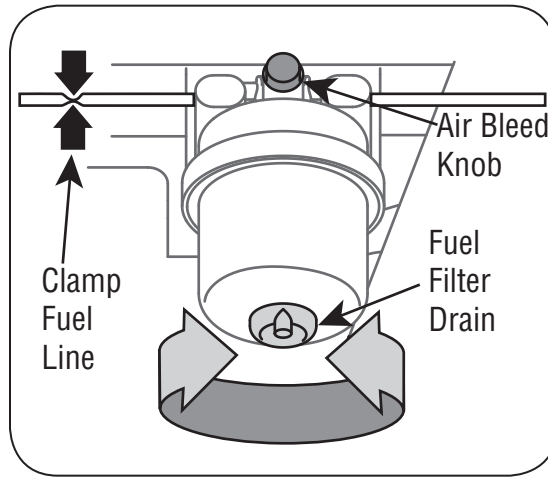

Figure 12
2. Place a suitable container beneath the filter drain valve. See Figure 12.
3. Turn the filter drain counterclockwise to open. Allow the water at the bottom of the filter to drain until only pure diesel fuel drains from the valve. See Figure 12.
5. Slowly turn the air bleed knob counterclockwise until fuel begins to seeps out around the bleed knob. Turn air bleed knob clockwise to close. Refer to Figure 12.
2. Clamp the fuel line just to the rear of the fuel filter. See Figure 12.
9. Slowly turn the air bleed knob counterclockwise until fuel begins to seeps out around the bleed knob. Turn the air bleed knob clockwise to close. Refer to Figure 12.